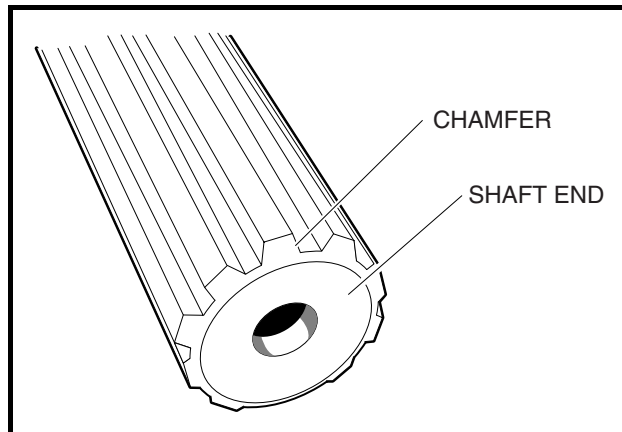

Figure 27-22 Clean Chamfer and Input Shaft End
- 2.6. Check the chamfer and end of the input shaft to ensure these areas are completely clean of grease as shown (**Figure 27-22, Page 27-14**).